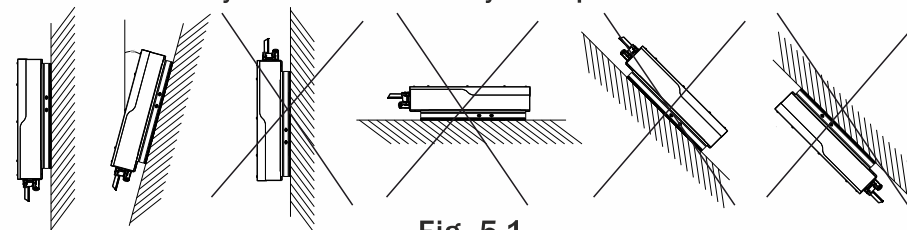

Fig. 5.1
2. Please install the equipment under the guidance of Figure 5.1. Vertical installation on floor level is recommended. Mount vertically or tilted backwards by max. 15°. Never install the hybrid controller tilted forwards, sideways, horizontally or upside down.